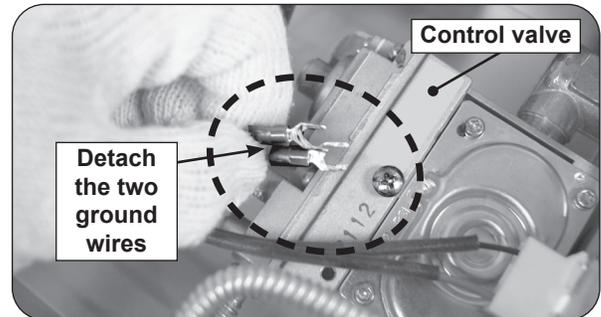

Fig. 4-3 Detach two ground wires
6. Loosen the screw and detach the two ground wires from the control valve with a Phillips screwdriver (see Fig. 4-3).